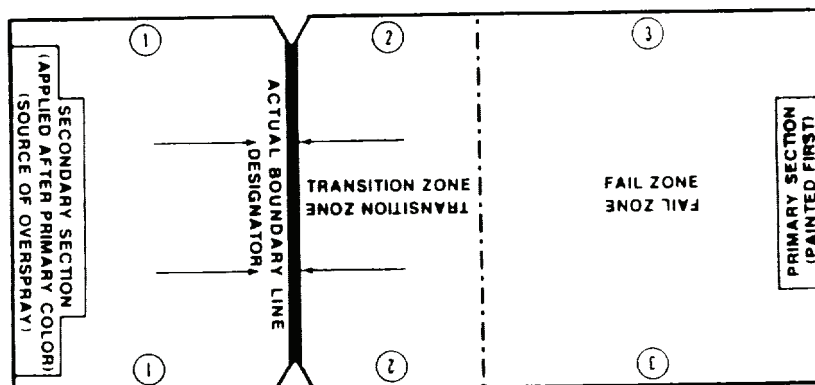

Figure 12-1. Overspray Gage
- CPP designs, including inspection worksheet and overspray gage as shown in Figure 12-1
- One (1) 6-foot steel measuring tape, graduated in sixteenths (or thirty-seconds) of an inch
- One (1) 6-foot steel measuring tape, graduated in tenths of an inch
In this level of inspection, borders are examined to ensure color definition. Contrast between color areas is key to CPP effectiveness, and, for this reason, overspray of one color into another color area must be minimized to a 1-1/2 inch tolerance. An overspray gage, as shown in Figure 12-1, is used to determine whether overspray on applied Camouflage Paint Patterns (CPP) is within this narrow tolerance.
The overspray gage shown in Figure 12-1 is a card-like, transparent sheet of plastic with white markings (to contrast with camouflage colors) which indicate the tolerance, or "transition" zone. This gage is overlaid on border area; the actual border line is then located and aligned under gage boundary line "DESIGNATOR", and overspray is examined. When overspray extends into "FAIL ZONE", failure location is noted by marking notches at both ends of gage boundary line DESIGNATOR with chalk or soapstone.